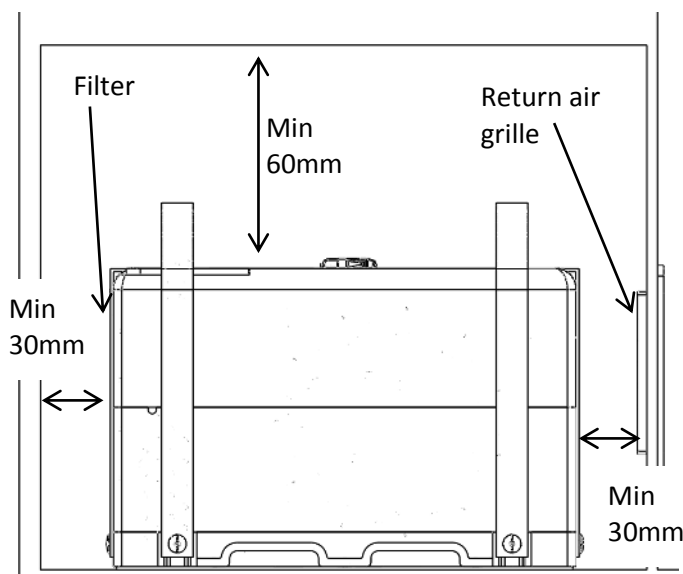

Figure 3-Minimum spacing for a fully enclosed unit with the return air grille on opposite sides to the filter
- If the return air grille is placed low down in front of the unit then the minimum distances to surrounding walls are shown in Figure 3